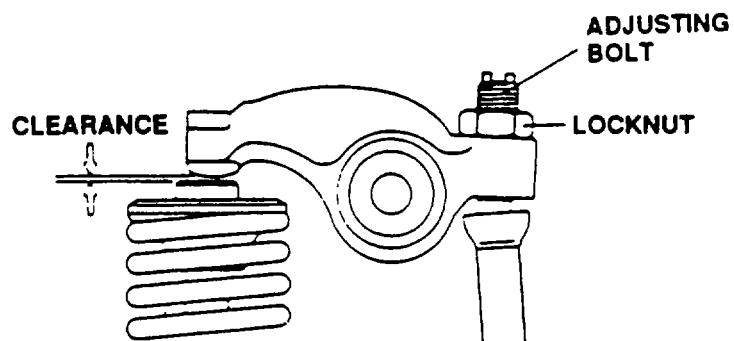

Figure 5-9. Adjusting Valve Clearance.
- (1) Turn flywheel so "T" mark on flywheel aligns with alignment mark on cylinder block.
- (2) Slightly rotate flywheel (approximately 20 degrees in both directions). If valves move up and down, this is the exhaust top dead center. Do not adjust the valve clearance with the flywheel in this position.
- (3) Give flywheel another turn until ""T" mark on flywheel aligns with alignment mark on cylinder block. Slightly rotate flywheel (approximately 20 degrees in both directions). If valves do not move up and down, the flywheel is in correct position to check valve clearance.
- (4) Check that "T" mark and alignment mark are aligned correctly.
- (5) Insert screwdriver into adjusting bolt and loosen locknut. Refer to Figure 5-9.
- (6) Turn screwdriver counterclockwise to obtain a clearance. Move valve lever inside for adjustments.
- (7) Insert feeler gauge between valve rocker arm and top of the valve spring cotter.
- (8) While turning the adjusting screw clockwise, slowly slide the feeler gauge back and forth. Stop turning adjusting screw when slight resistance is felt on the feeler gauge.
- (9) Remove feeler gauge and tighten locknut. Keep screwdriver inserted into adjusting screw to prevent adjusting screw from turning.
- (10) Verify valve clearance of 0.006 inch (0.15 mm) after completion.
- (11) Repeat on both intake and exhaust valves.
- (12) After securing both locknuts, check that clearance is still 0.006 inch (0.15 mm).